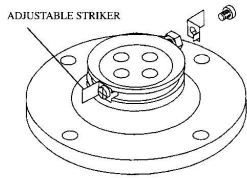

Figure 6
- a、 Setting the Pan limits (see figure 6): Loosen the M4 screws and loosen the pan strikers. Adjust the strikers until they are at the position to strike the relevant actuator, thus activating the limit switches. Tighten the M4 screws to secure the pan strikers.